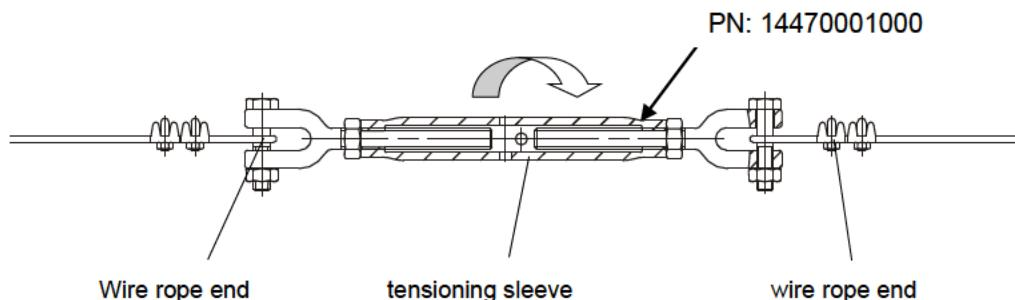

Figure 7-152: Turnbuckle and Wire Rope
5. Tension the wire rope by turning the turnbuckle sleeve, using a drive pin (\varnothing approximately 3.5 mm) or an adjustable crescent wrench. In any case, the tension has to be strong enough so that it is not possible to pull the connecting-fabric including integrated wire rope completely out of the suspension frame. The wire rope has to be forced fit in the corner and radius areas. With a rubber hammer, slightly hammer in the corner and radius areas onto the wire rope for proper positioning. The turn buckle has a variable length of approx. ± 50 mm. See Figure 7-152.